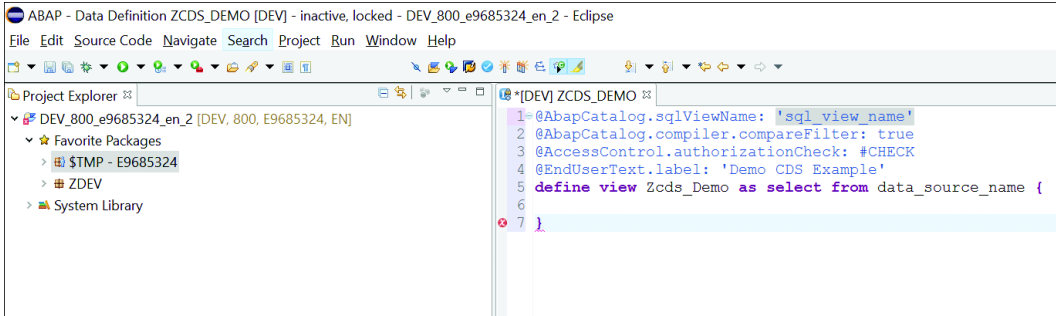

Figure 10.48 CDS View Editor
5. The new CDS view editor opens (see Figure 10.48). The editor automatically loads a template, which you need to edit to supply information. The template